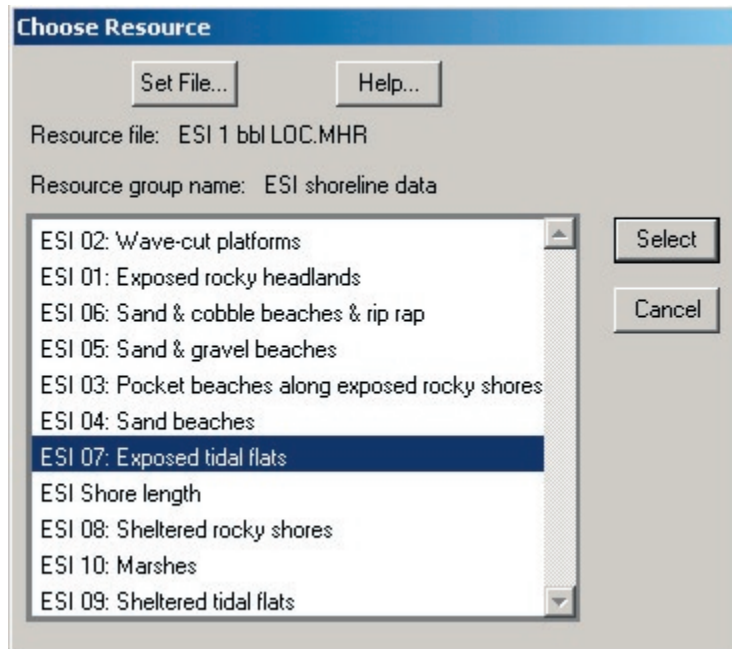

Figure 39. Example of selecting a resource.
- 8 Double-click on ESI 07: Exposed Tidal Flats. See figure 39.